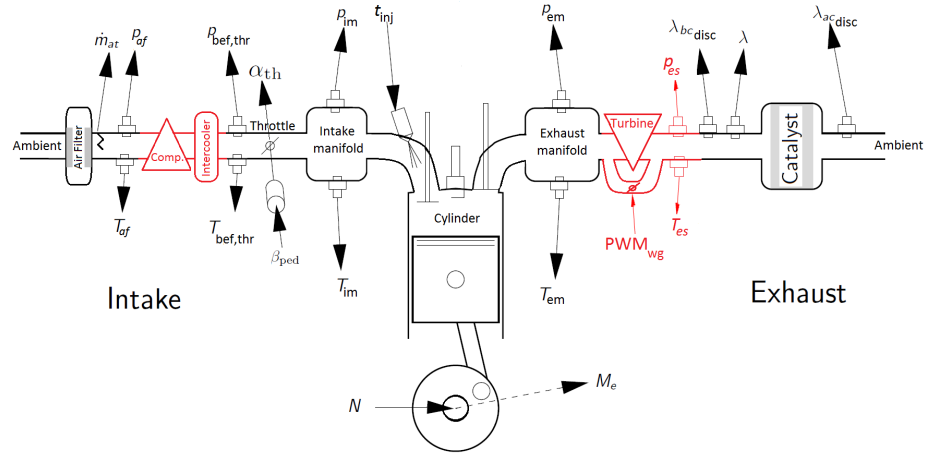

Figure 1: An overview of the air path with signals and components to be modeled in Project 1 (shown in black) and Project 2 (shown in red+black)
From project 1, you now have a Simulink model of a naturally aspirated engine. We will now add a turbocharger to it. That is, we will include the parts drawn in red in Figure 1.
- Find the **compressor** and **intercooler volume** subsystems, deduce the correct Simulink signal connections according to Figure 1, and connect it to your engine model.
- From the `turbocharger_models.slx` file, grab the `turbine`, `wastegate`, and `exhaust system volume` subsystems. Connect the signals according to Figure 1. Assume a fully open wastegate, i.e. a constant $u_{wg} = 1$, and $\omega_{tc} = 8000$ rad/sec. For the catalyst flow model, assume an inlet temperature of 700.